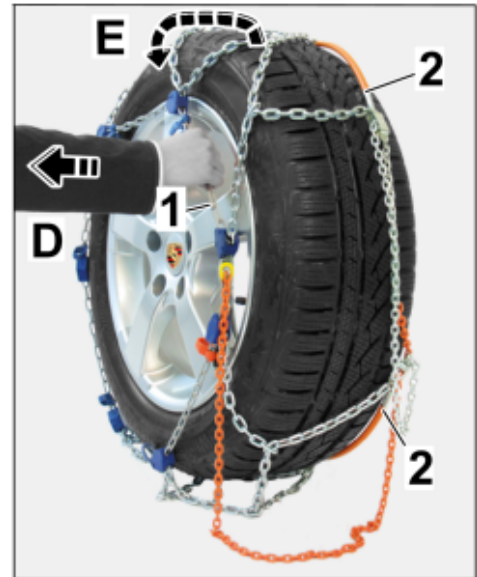

Figure 18
3.3.5 Hold the chain net above the centre of the axle and pull it away from the wheel (⇒ *Figure 18 -D-*).
End of spring steel clip is rubbing slightly on the tire running surface (⇒ *Figure 18 -E-*).